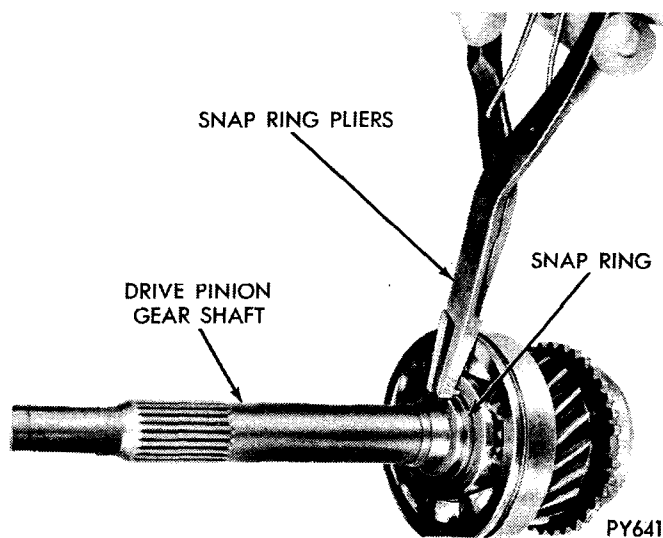

Fig. 13—Removal or Installation—Pinion Shaft-to-Bearing Snap Ring
(5) If bearing is to be replaced, remove snap ring and press bearing off the pinion gear shaft (Fig. 13).
(8) Press new bearing on pinion with snap ring groove forward. Install snap ring on shaft (Fig. 13).